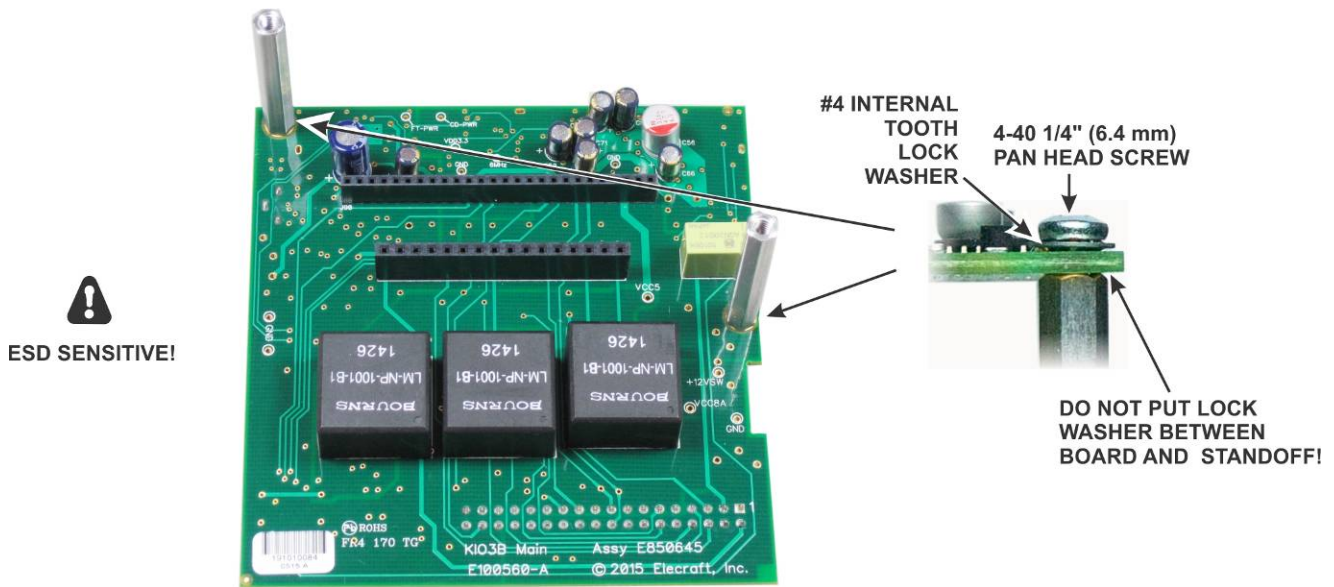

Figure 56. Mounting Standoffs on the KIO3B Main Board.
□ Mount two 1-1/4" (31.8 mm) standoffs in the two holes on the KIO3B board as shown in Figure 56 using a zinc 4-40 1/4" (6.4 mm) screw and internal tooth lock washer at each standoff. One is in the corner and the other is about half way down the opposite side of the board. **Do not put lock washers between the standoffs and the board.**